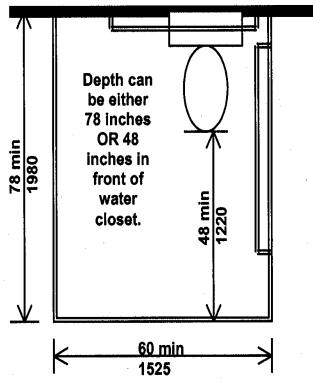

Figure 1: Diagram of accessible toilet stall
- The toilet area is minimum of 60 inches wide measured from the wall next to the toilet and 48 inches of clear floor space from the front of the toilet bowl to the compartment/room wall or at least 78 inches measured from the wall behind the toilet (Refer to Figure 1). Diaper changing tables are not allowed in the wheelchair accessible toilet compartment.